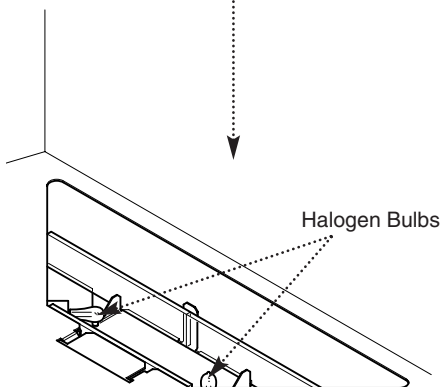

Fig. 10
3. Remove the bulb by pulling out from the ceramic bulb holder to disengage the pins (Fig. 10).